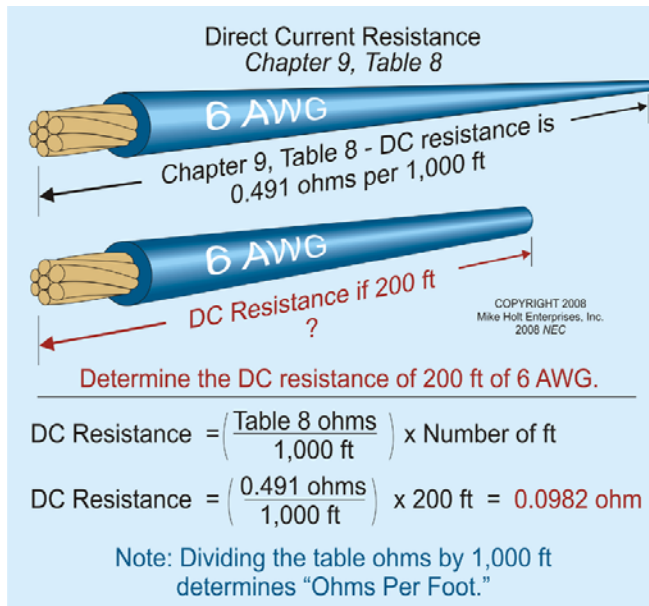

Figure 8–5
**Question:** What is the resistance of 200 ft of 1/0 AWG aluminum? **Figure 8–6**